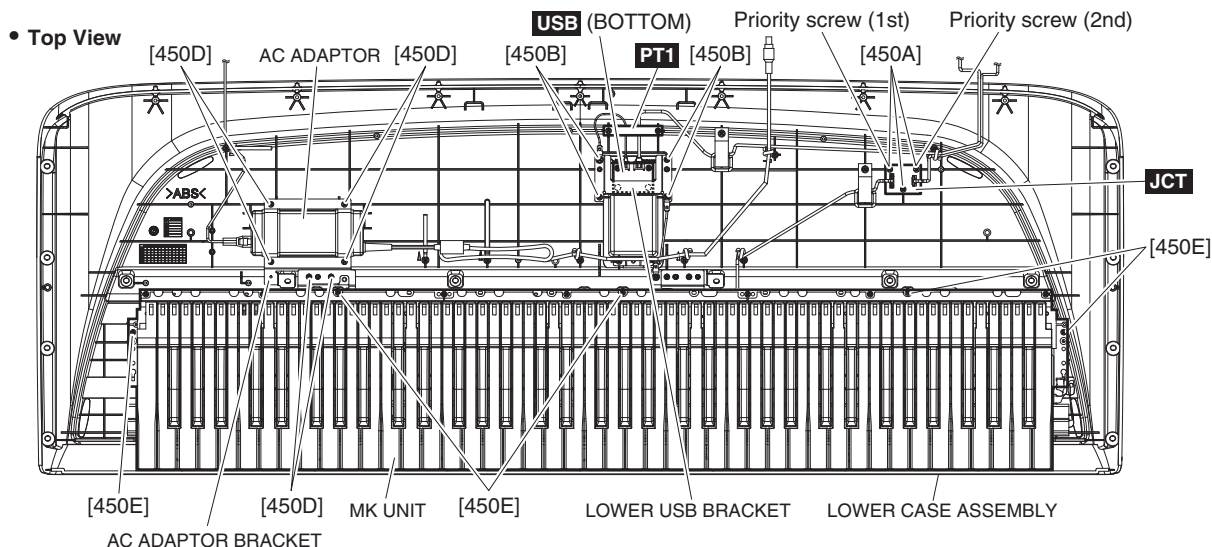

Fig. 15
- 21-1 Remove the three (3) screws marked [450A]. The JCT circuit board can then be removed. (Fig. 15)
* **When installing the JCT circuit board, first tighten the two (2) priority screws marked [450A] in order as shown in Fig. 15.**
- 22-1 Remove the four (4) screws marked [450B]. The lower usb bracket can then be removed. (Fig. 15)
- 22-2 Remove the four (4) screws marked [50c]. The USB circuit board can then be removed. (Fig. 15, Photo 3)
- 23-1 Remove the two (2) screws marked [450C]. The PT1 circuit board can then be removed. (Fig. 15, Photo 3)
- 24-1 Remove the six (6) screws marked [450D]. The AC adaptor bracket can then be removed. (Fig. 15)
- 24-2 Remove the AC adaptor. (Fig. 15)
- 25-2 Remove the five (5) screws marked [450E]. The MK unit can then be removed. (Fig. 15)